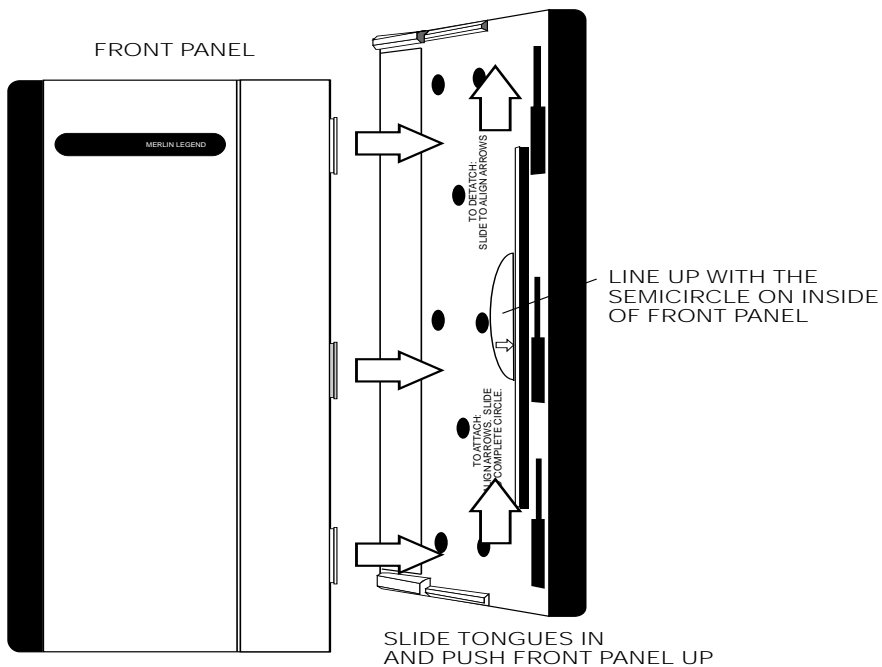

Figure 9-8. Installing the Control Unit Housing
- b. Slide the panels until the semicircles form a complete circle. See Figure 9-8.